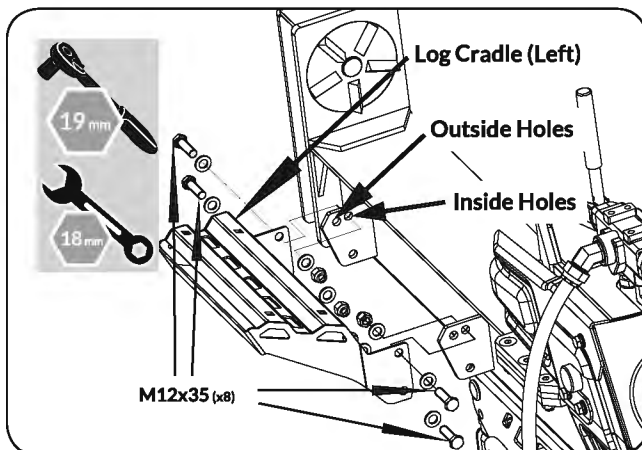

Figure 14
2. Follow step 1 to assemble the right log cradle. (See **Figure 14**)